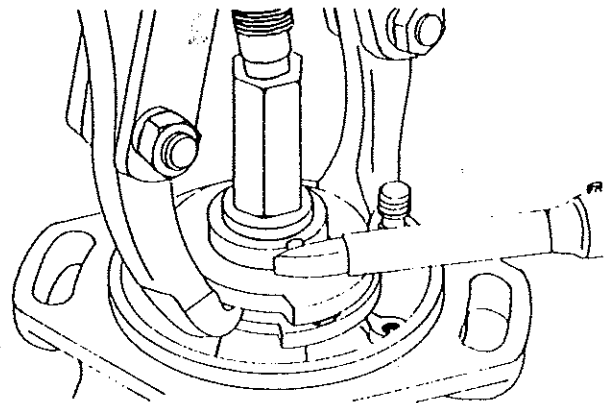

Figure 403. Applying Heat to Release Coupling From Shaft
- D. Tighten puller handle to remove coupling from shaft. If coupling does not release with maximum hand torque at puller handle, apply penetrating thread release compound between coupling and shaft. Then while puller is still fully tightened, hold tip of hot heavy-duty soldering iron in contact with hub of coupling cam assembly. See Figure 403. Solder wetting of the tip at point of contact with cam hub will assist in heat transfer to the parts. Retighten puller after about a minute of heat application.